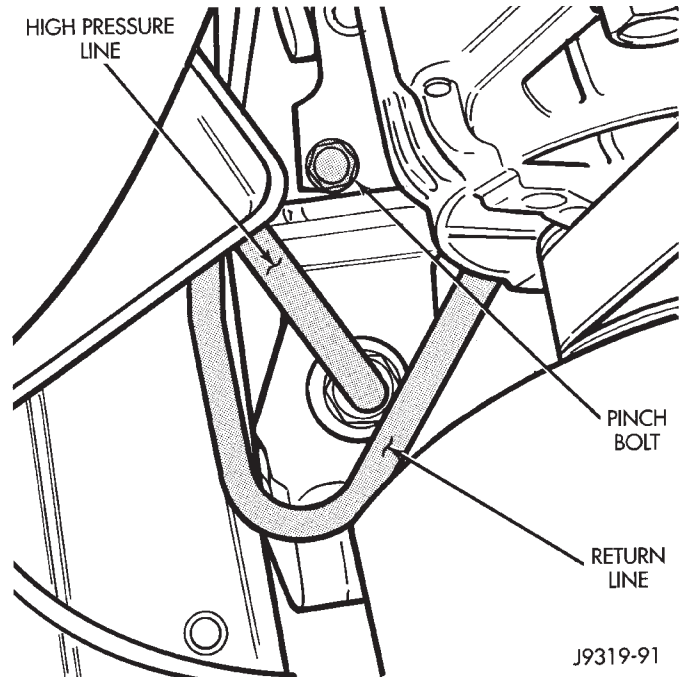

Fig. 2 Fluid Lines On Steering Gear
- (1) Place a drain pan under the pump and gear.
- (2) Disconnect the pressure and return line from the steering gear (Fig. 2, 3).
(2) Install pressure and return line on the pump and gear (Fig. 2, 3, 4).
(3) Align the pressure and return line bracket to the tensioner bracket. Install the screw. Tighten the screw to 28 N·m (21 ft. lbs.) torque.